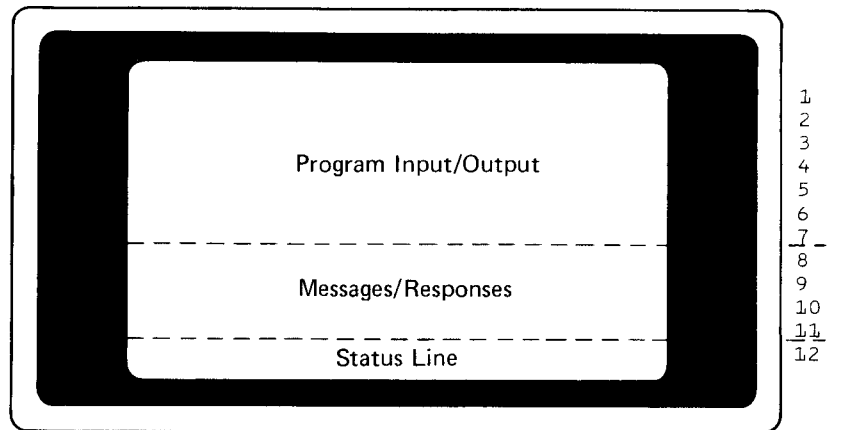

Figure 13. Data Management Format
- Data management format (Figure 13)
Figure 13 consists of seven lines of program input/output area (lines 1 through 7) and four lines of messages and responses (lines 8 through 11). The program input/output area is where you enter data in response to an ENTER DATA  $\begin{Bmatrix} P1 \\ P2 \\ P3 \end{Bmatrix}$  prompt and also the area where application programs can display data to you. Any system messages that occur while in this format are displayed in the messages/responses area.